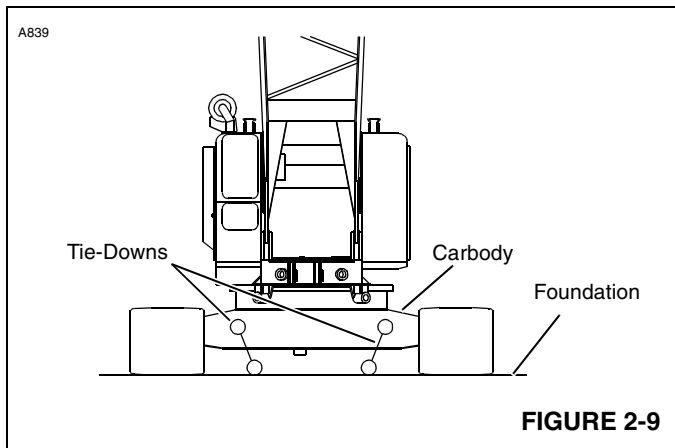

FIGURE 2-9
1. Crawler-mounted crane with carbody anchored with tie-downs to foundation (Figure 2-9).